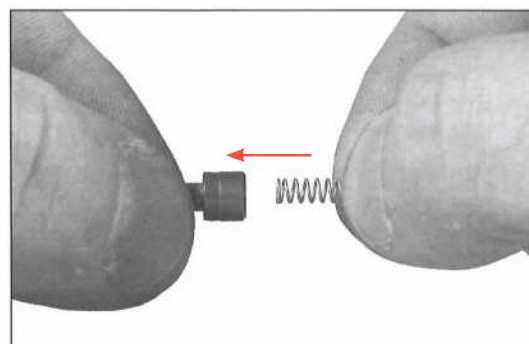

Fig. 32
- If the spring should become separated from the safety, merely press either end back into its receptacle in the bottom of the safety. Compress the spring fully and turn it ¼ turn counter clockwise. When the spring is released, it should be reattached to the safety. If the spring is not firmly attached, it may fall into the recess and not provide proper spring tension to the safety. (Fig. 32/33)